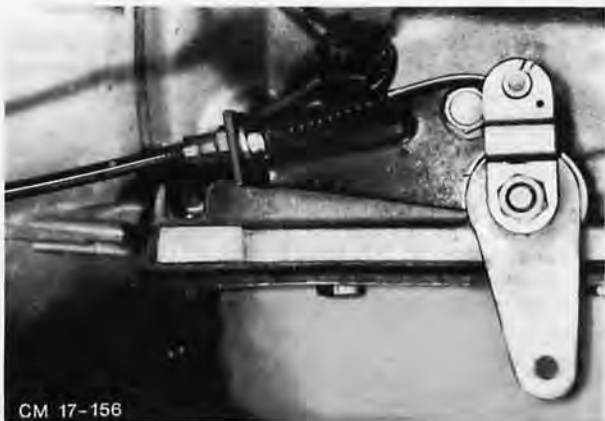

Fig. 60. Remove downshift cable from transmission and bracket
4. Remove outer cable from transmission bracket. Unscrew nut from threaded coupling and unhook cable from bracket (slot), Fig. 60.